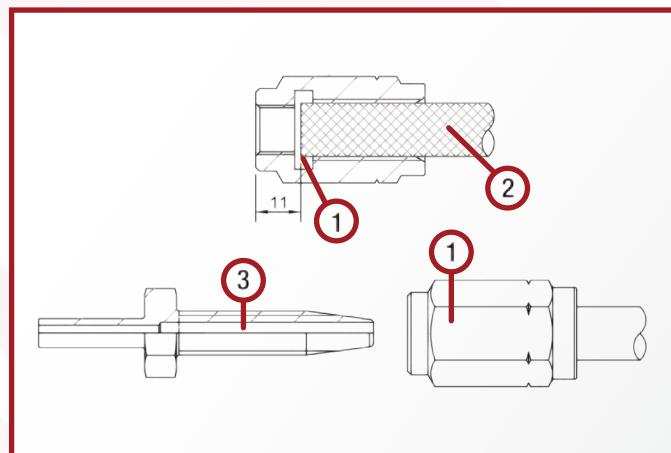

FIG. 7 Preassembly of threaded sleeves and hose studs on the high-pressure hose.
Screw threaded sleeve, item 1 Fig. 7, counter clockwise onto high-pressure hose (2) until illustrated dimension of 11mm is reached. Then screw hose stud (3) into threaded sleeve(1) clockwise.